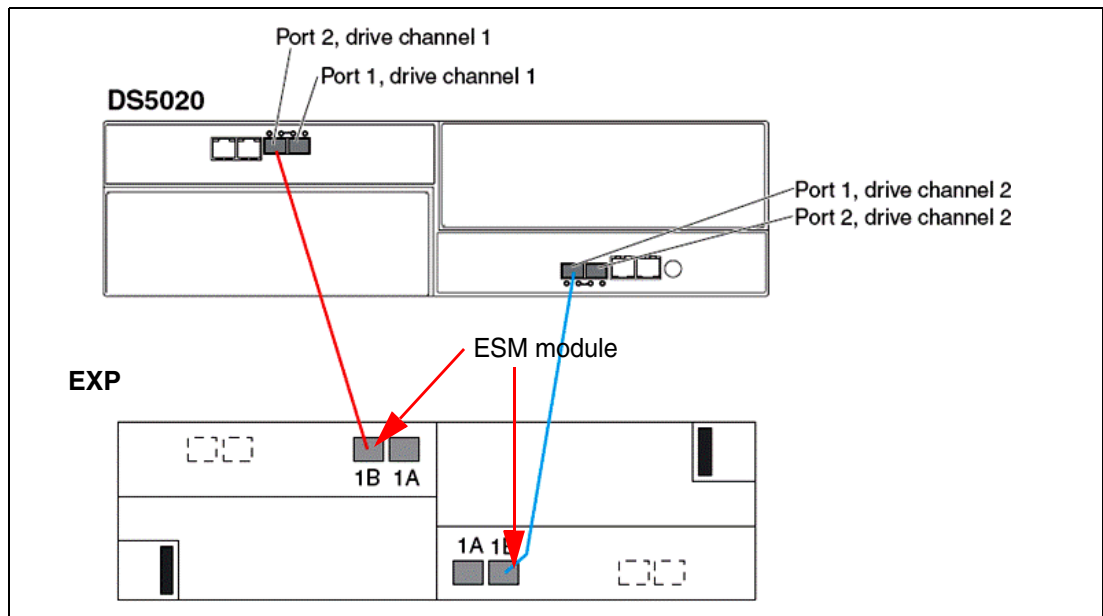

Figure 3-64 DS5020 drive cabling with one EXP
- If you attach only one enclosure, make sure that you have one connection to each of the controllers, thus using one of the two ports on each controller (controller A port 2 and controller B port 1), as shown in Figure 3-64.